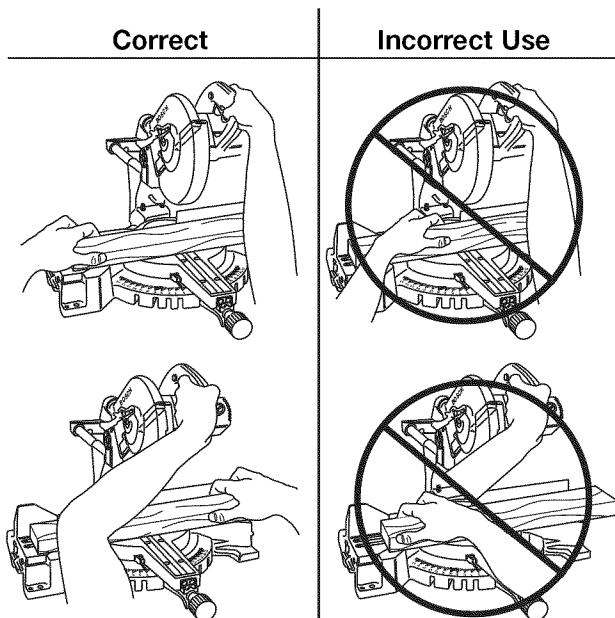

Figure 18. Hand Positions
! WARNING Position your body and hands properly to make cutting easier and safer. Observe the following instructions (Figure 18).
- Hold workpiece (outside of the “No Hands” zone) firmly to the fence to prevent movement (Fig 18).